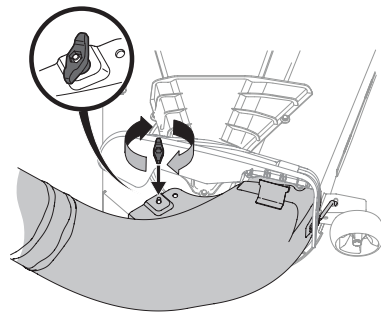

Figure 18
6. Secure the boot elbow to the cutting deck using a wing knob (720-04122) included in hardware pack 689-02364. Refer to Figure 18.